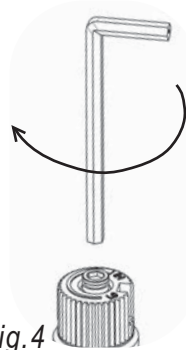

Fig.4
- 20) Using the Allen wrench as shown in Fig.4, rotate the screw clockwise until snug, do not overtighten.